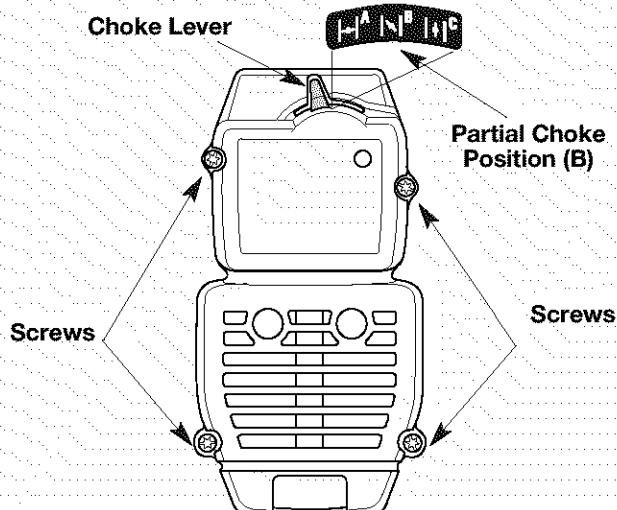

Fig. 23
NOTE: The choke lever must be in the **PARTIAL** choke position (**B**) (Fig. 23) to remove the air filter/muffler cover.
2. Remove the four (4) screws securing the air filter/muffler cover (Fig. 23). Use a flat blade or T-20 Torx bit screwdriver.
- NOTE:** The choke lever must be in the **PARTIAL** choke position (**B**) (Fig. 23) to install the air filter/muffler cover.
2. Insert the four (4) screws into the holes in the air filter/muffler cover (Fig. 23) and tighten. Do not over tighten.